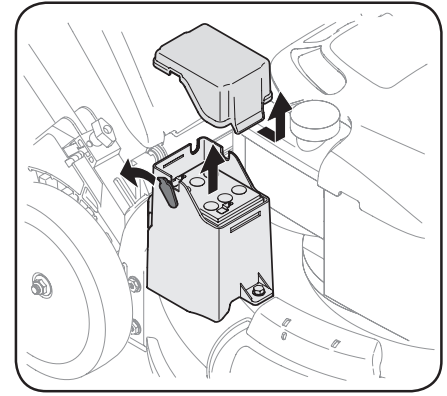

Figure 4-7
- Remove positive and negative leads from battery, and pull up on battery to remove. See Figure 4-7.